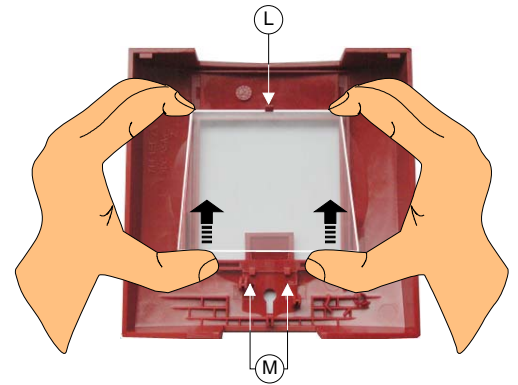

Fig. 6
**Glass screen:** Remove any broken splinters before replacing the glass! Push the top edge of the replacement screen up against lug (L) and press the screen gently into position until it snaps under the two lugs (M) at the bottom of the window (Fig. 6).